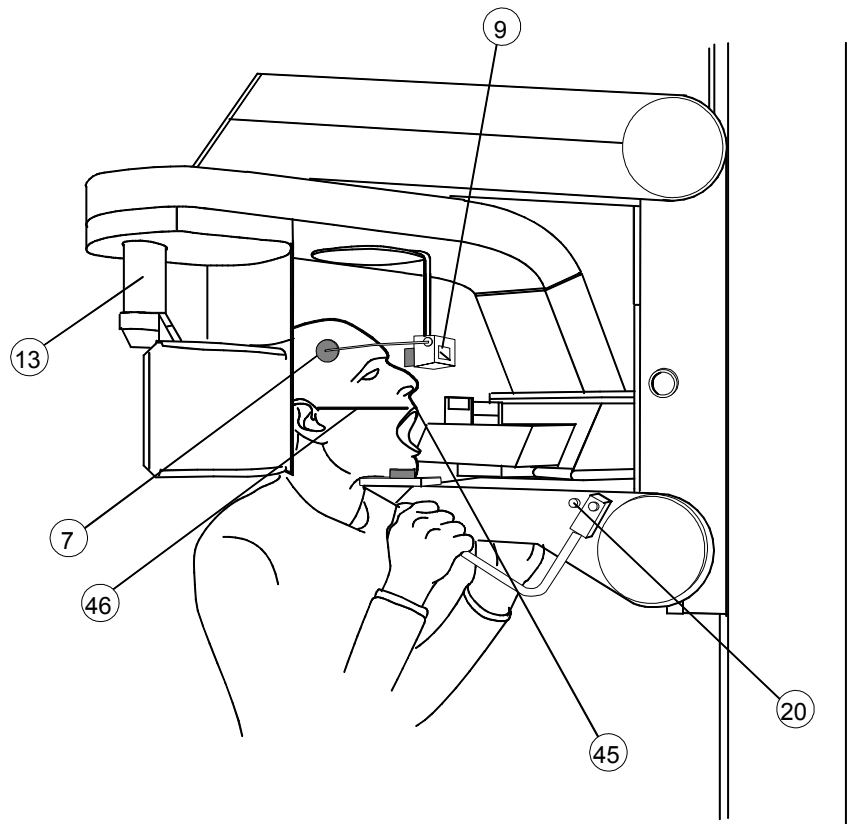

Figure 5: TMJ2 position
2. Leaving the film used on the previous examination on the cassette, rotate the film holder from PAN/TMJ position to the TMJ2, rotating anticlockwise the knurled knob **13** (Figure 5).
6.3.2.2 Preparing the patient (refer to Figure 5)